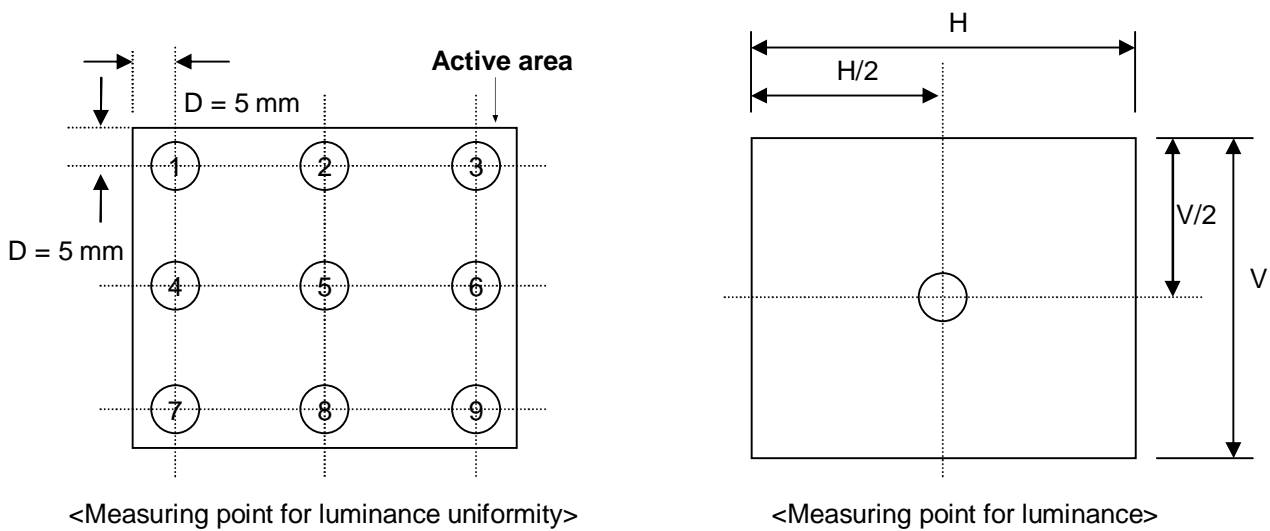

FIG. 3. The definition of Response Time
3. Response time is the time required for the display to transition from white to black (Rising Time, Tr) and from black to white (Falling Time, Tf). For additional information see FIG 3.